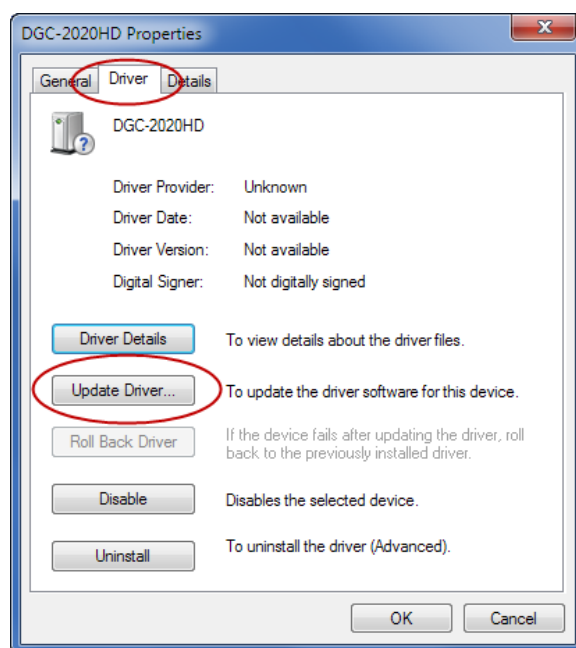

Figure 83. DGC-2020HD Properties
Step 3. In the Properties windows, select the Driver tab and click Update Driver. See Figure 83.